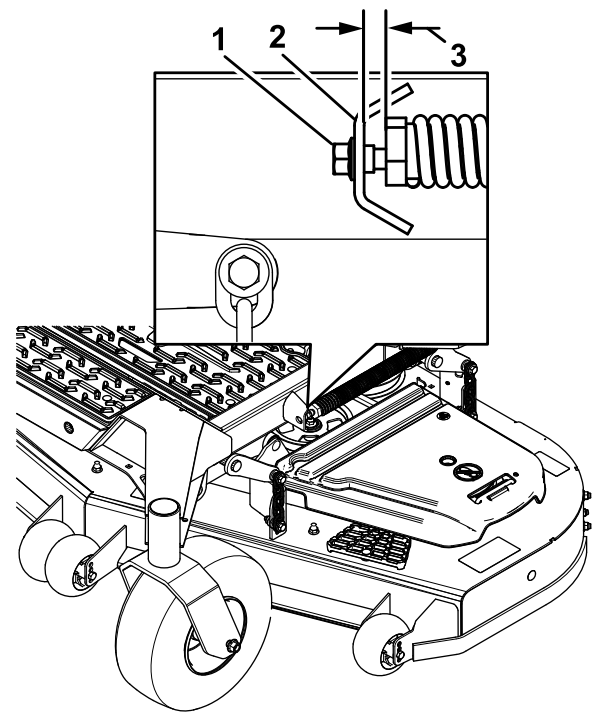

Figure 88
- Slowly loosen the adjusting screw on the lift-assist spring until you can remove the screw (Figure 88).